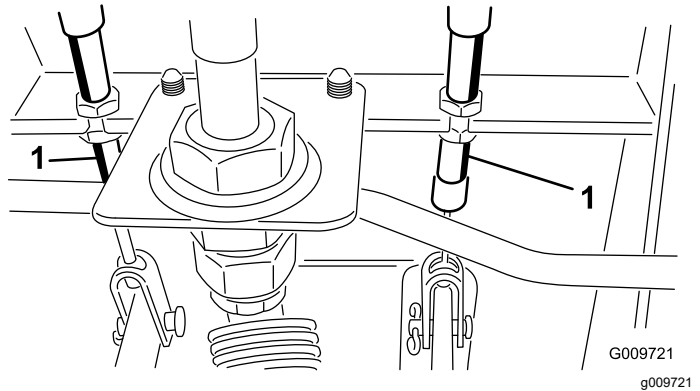

Figure 99
- A. Loosen the front nut on the threaded end of the brake cable (Figure 99).